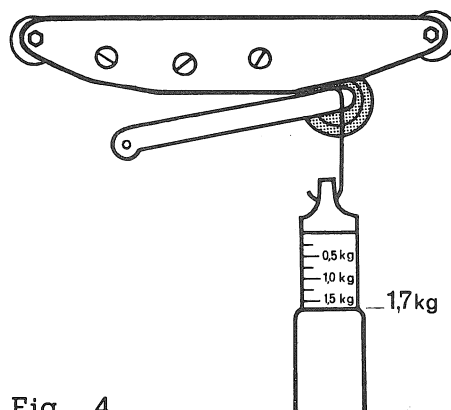
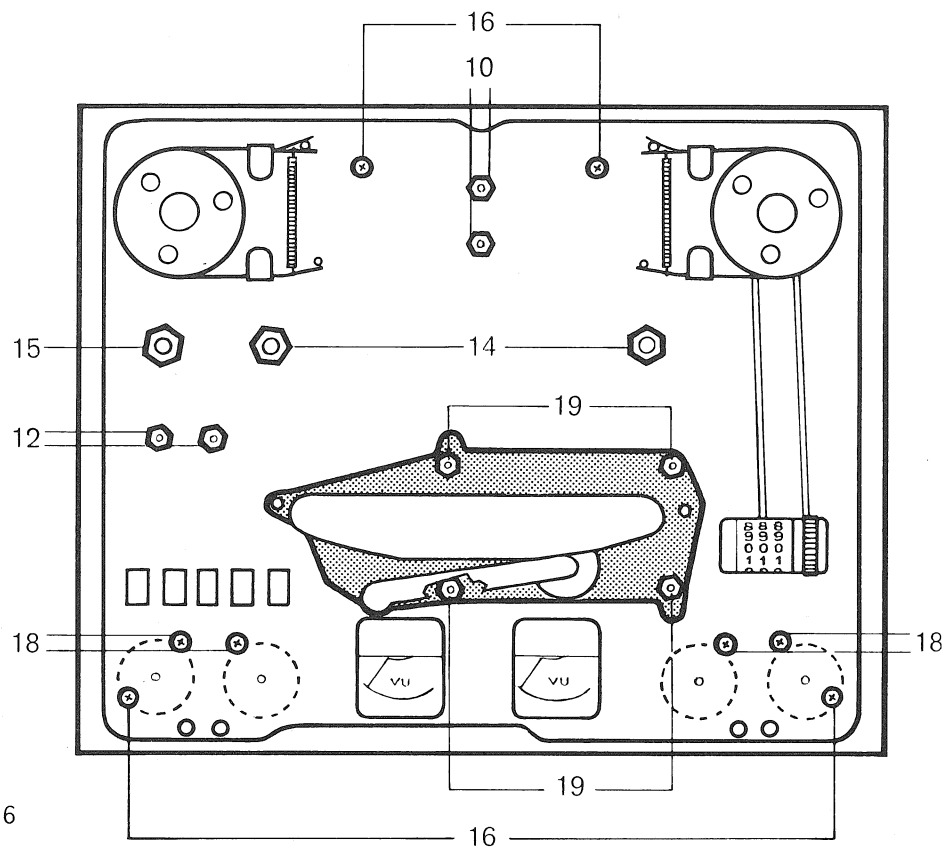
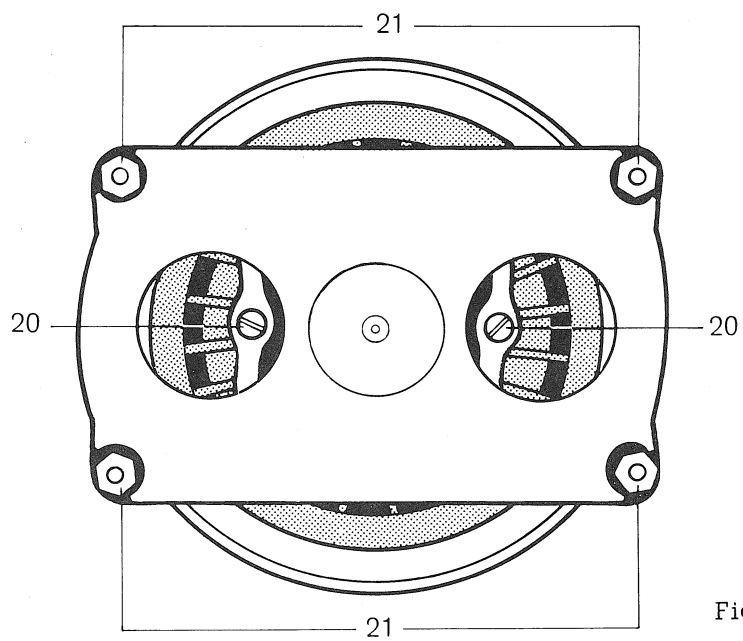

Fig. 4
Fig. 6
Fig. 7
The pressure of the pinch roller can be measured by a gauge fixed to the pinch roller arm as close as possible to the spindle of the pinch roller (fig. 4). A constant tone tape should be played and the pinch roller withdrawn by the gauge until the note is heard to change. A reading in the region of 1,7 kg should be obtained, Adjustment to this value can usually be obtained by turning nut no 13 in fig. 5. Should this not provide the necessary amount of correction it is advisable to check the position of the solenoid no 11 in fig. 5 which will be correct when there is approx. 0.5 mm clearance at point A (fig. 5) with the solenoid energized. It is essential that the solenoid's slug fully bottoms in the energized position and when properly adjusted, there should be no movement of the slug when lifting the pinch roller off the capstan. Correct setting can be obtained by loosening the nuts (12 in fig. 6) and moving the solenoid in the required direction.
Conventional switch cleaners are not recommended for the high current spring contacts used in the REVOX, and where cleaning is necessary, the contacts should be polished clean. The interlocking bars and push-button shafts may require occasional greasing with molybdenum grease. Where a part of the assembly needs replacement, unscrew the four fixing screws, bend the pushbuttons to the right and ease the unit to a better working position. For better access to the switch assembly, the housing of the pinch roller solenoid should be removed by undoing the M 4 nuts (pos. 12 in fig. 6).
Having removed the chassis, as described in sect. 2.1. from the cabinet and the loudspeaker and panel, separate upper and lower chassis sections by undoing screws no 16 shown in fig. 6. Lift upper chassis without exerting excessive force, if necessary loosen the fixing screws of the selector switches (18 in fig. 6) to gain more freedom of movement.
Unscrew the capstan mounting nuts (19 in fig. 6) and remove the assembly downwards and forwards out of the chassis. The fixing screws 20 in fig. 7 on the flexible coupling are to be removed through the large holes in the capstan bearing plate. The motor mounting screws (21 fig. 7) should now be removed using REVOX's special 8 mm nut driver, after which the flywheel assembly can be separated from the motor.